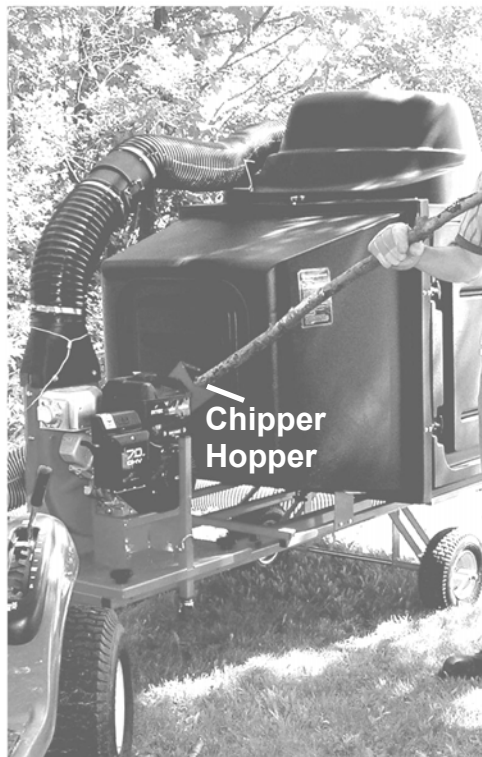

Figure 31
2. To process branches; feed them into the Chipper Hopper opening (*Figure 31*).